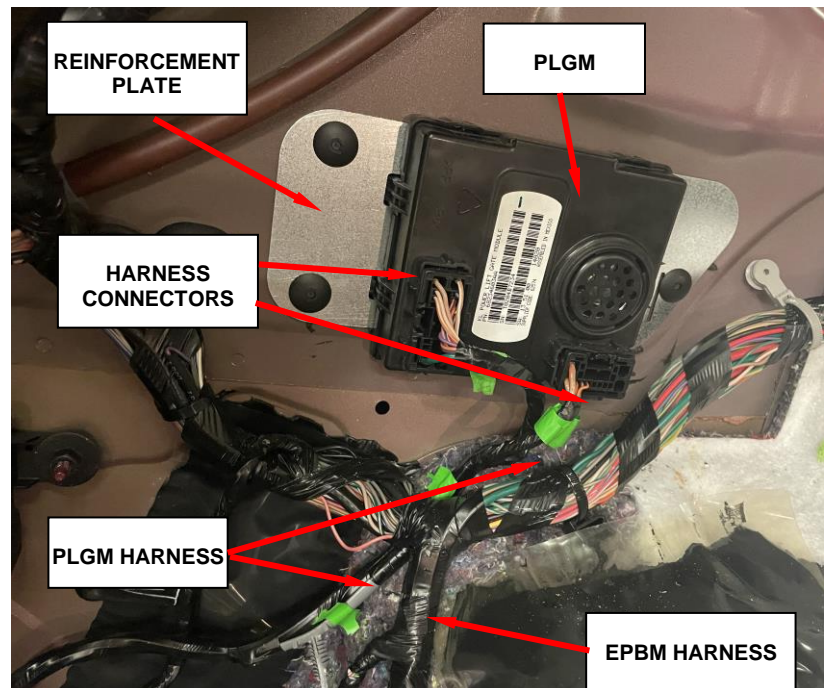

Figure 27 – PLGM and Harness on Reinforcement Plate
20. Route the PLGM harness up the side of the body, and behind the Electric Park Brake Module (EPBM) harness (Figure 27).
21. Snap the PLGM onto the bracket (Figure 27).
22. Connect the harness connectors to the PLGM (Figure 27).